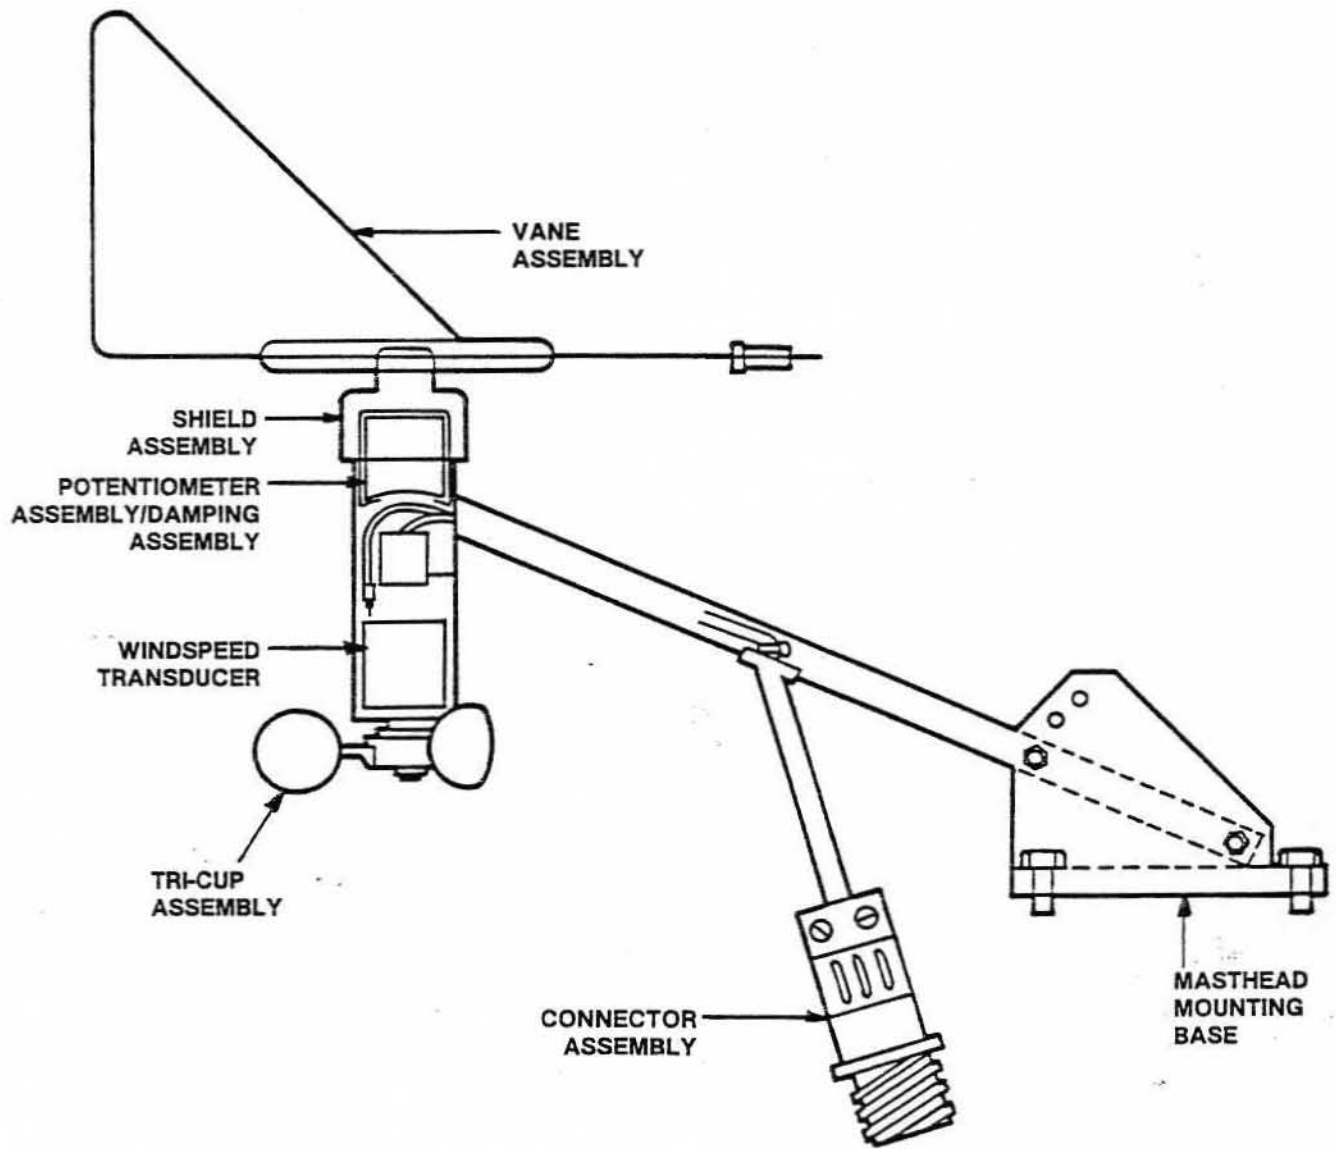

Figure 8. Masthead sensor assembly replaceable parts (see 5.1 Parts List).
The System 1500 is a complex electronic device which should normally be serviced only by a qualified technician with proper equipment. The indicator contains no user-replaceable parts. The masthead sensor assembly does contain replaceable parts (see 5.1 Parts List and Figure 8).
1. Masthead Sensor (Reference figure 8):